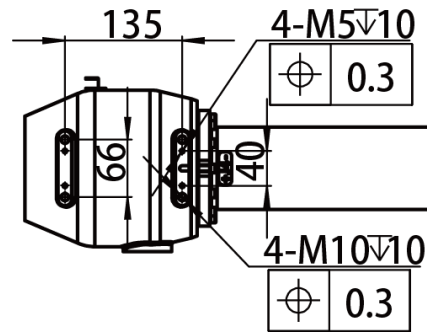

Figure 7-6 AIR20-2000B elbow load interface dimension diagram
The specification and size of the installation hole of J3 axis elbow of the AIR20-2000B manipulator are shown in Figure 7-6.
- The position of center of mass of elbow load shall be located in the area of 150mm × 80mm as shown in Figure 7-6.